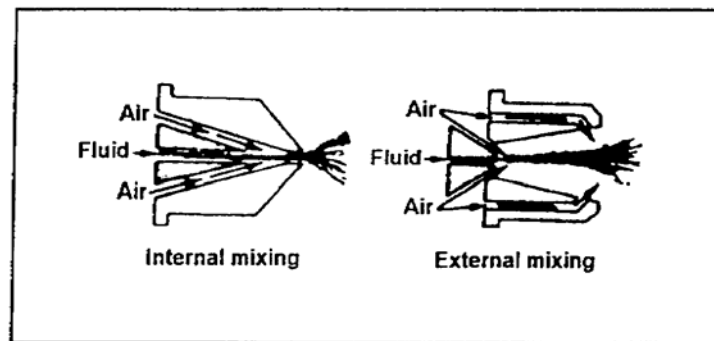

Figure 3-37. Nozzles of internal- and external-mixing spray guns
a. **Internal Mixing.** This spray gun mixes paint and air inside the gun and spray cap. It is shown on the left side of Figure 3-37. The cap requires less air pressure than the external-mixing spray gun. The cap is popular on small spray guns. The main fault of the internal mixing feature is the tendency for fast-drying materials, which are atomized inside the cap, to collect inside and around the outlet. Pressure fed-spray guns are usually of the internal mixing type.
b. **External Mixing.** This spray gun mixes the paint and air outside the gun and spray can. It is shown on the right side of Figure 3-37.